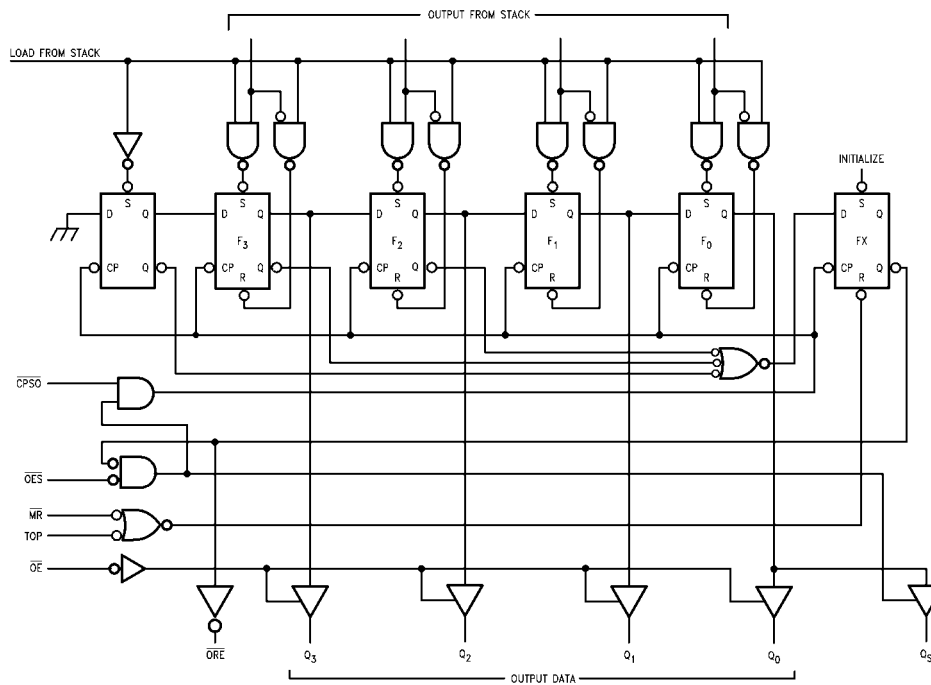

FIGURE 3. Conceptual Output Section
The Output Register receives 4-bit data words from the bottom stack location, stores it and outputs data on a 3-STATE 4-bit parallel data bus or on a 3-STATE serial data bus. The output section generates and receives the necessary status and control signals. Figure 3 is a conceptual logic diagram of the output section.
**Serial Data Extraction**— When the FIFO is empty after a LOW pulse is applied to  $\overline{MR}$ , the Output Register empty ( $\overline{ORE}$ ) output is LOW. After data has been entered into the FIFO and has fallen through to the bottom stack location, it is transferred into the Output Register provided  $\overline{TOS}$  is LOW and  $\overline{TOP}$  is HIGH. As a result of the data transfer  $\overline{ORE}$  goes HIGH indicating valid data in the register. The 3-STATE Serial Data Output,  $Q_S$ , is automatically enabled and puts the first data bit on the output bus. Data is serially shifted out on the HIGH-to-LOW transition of  $\overline{CPSO}$ . To prevent false shifting,  $\overline{CPSO}$  should be LOW when the new word is being loaded into the Output Register. The fourth transition empties the shift register, forces  $\overline{ORE}$  output LOW and disables the serial output,  $Q_S$  (refer to Figure 3).